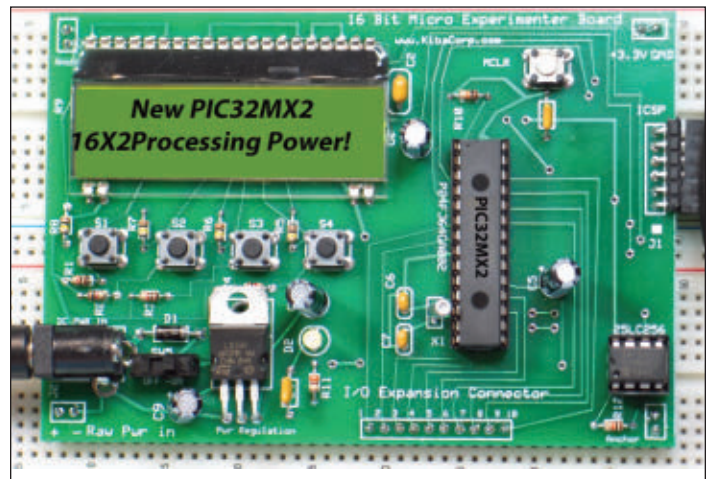

FIGURE 1. The 16-bit Experimenter upgrade.
Refer to **Figure 1** which shows the schematic. To avoid getting lost in the spaghetti wiring, keep the overall idea in mind. In particular, there are two main controls: the output switch (S1); and the microphone switch (S2).
■ FIGURE 1.
The convoluted wiring of **Figure 1** may have left you scratching your head a bit. Just to make sure you understand what all is possible as you customize things for your own setup, let me tell you how I flip the switches in my rig. Recall that S1 is the output switch, while S2 is the microphone switch. You might want to peek ahead to **Figure 2** which shows what the front panel looks like. On that, you can see the switch labels for each of the three positions which are:
The 16-bit Experimenter was introduced in the December '09 issue of Nuts & Volts. This Experimenter targeted Microchip's 16-bit microcontrollers and is equipped with a +3.3V regulated power supply, a 16x3 LCD display, four pushbuttons, a 32K EEPROM, 10-pin I/O expansion bus, a 32 kHz clock crystal, and the Microchip ICSP interface for programming and debugging. The Experimenter form factor was made for easy insertion into solderless breadboard environments. Now, what if we told you that you can now use a 32-bit processor with this same Experimenter? Take a look at Figure 1.